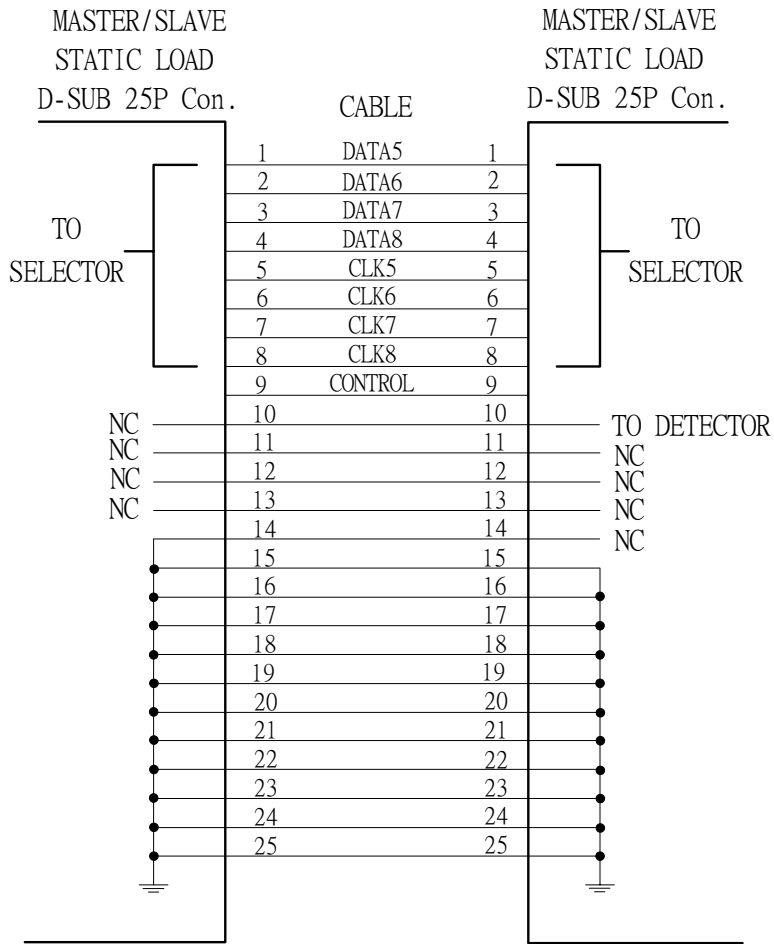

Figure 2-7 25PIN "D" type cable
- 3.The channel number of Master / Slave operating is shown in Fig 2-7, i.e.; in the Master unit from left to right : ch1, ch2, ch3 and ch4, and in Slave unit from left to right: ch5, ch6, ch7 and ch8 respectively.